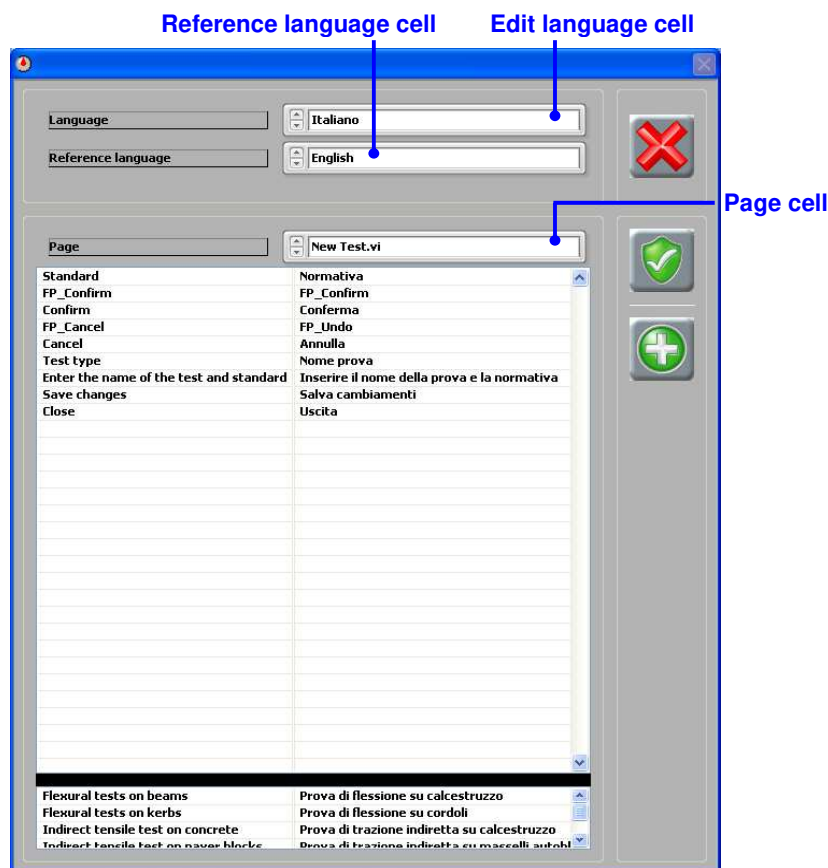

Fig. 6-2
2.  Click the **Dictionary button** to open the Language panel (see Fig. 6-2).